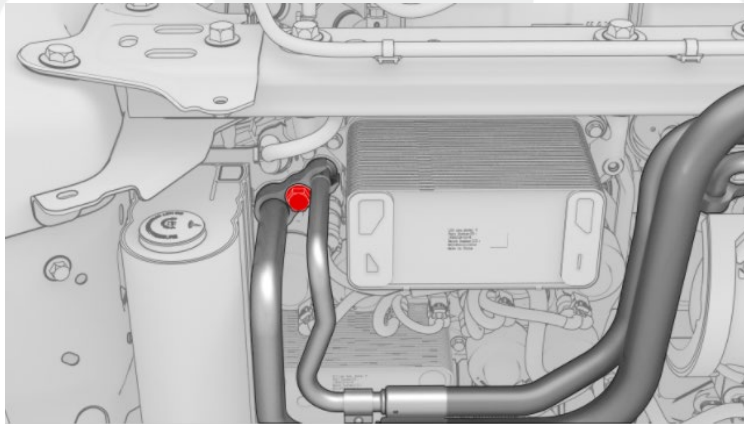
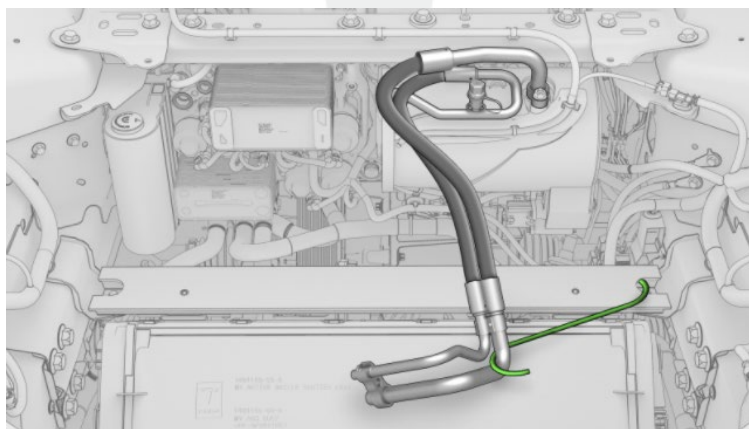

Figure 1
Figure 2
8. After recovery completes, remove the 13 mm bolt that attaches the Supermanifold-to-compressor A/C line to the Supermanifold (Figure 1).
9. Remove the Supermanifold-to-compressor A/C line from the Supermanifold, and then use an S-hook to restrain the line to the underhood storage unit support beam (Figure 2).
22. Release the S-hook from the vehicle (Figure 2), install the Supermanifold-to-compressor A/C line into the Supermanifold, hand-install the 13 mm bolt that attaches the A/C line to the Supermanifold, and then tighten (torque 22 Nm) (Figure 1).